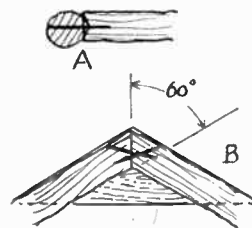

Fig. 3
Cut the horizontal side rails. These, at their ends, are hollowed a little, to better fit against the uprights, as at (A) in Fig. 3. They are then joined across with a single long nail to each joint, as in the diagram. It will be wise here to make preliminary holes through the uprights with a gimlet, otherwise the wood may split. Take care to get each rail approximately correct as to height from ground level, and both sides alike. As some of the wood is likely to be far from truly straight, some judgment must be shown in fixing to get a symmetrical effect.
Cut the pieces of wood required for the cross pieces at the top of the arch. These must be cut at their meeting ends in the centre at an angle of 60 degrees. They are then skew nailed together, as shown at (B) in Fig. 3. Place them, one on top of another, to get them both alike, then fix in that position with a short piece of 6ins. wide board firmly nailed behind each. The detail (B) explains this quite clearly. With the assistance of obliging friends, or members of the family, place the sides of the arch at their correct distance apart. To better ensure this, cut a length of spare wood to that distance, and hold it between the sides.